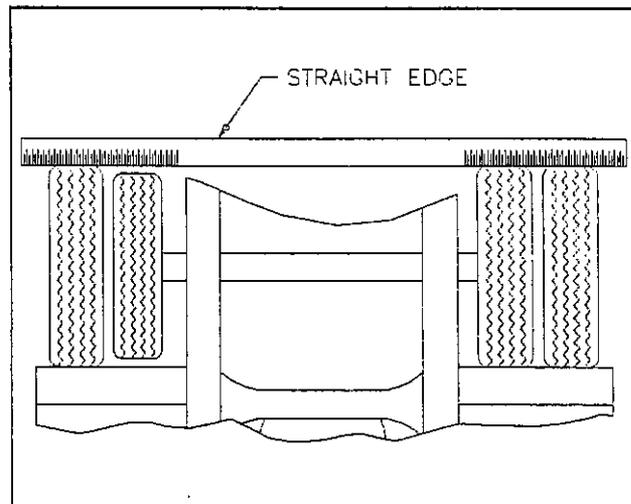

Fig. 4-10 Straight Edge Method
b. **Straight Edge or String Method:** (This method can not be used if tire and wheel assemblies are not mounted on the axle.) Jack semitrailer up until the wheels are off of the ground. Hold a straight edge against the tires of both ends of an axle. A gap at one tire indicates a smaller tire. A maximum of $1/8$ " gap is allowed (See Figure 4-10).